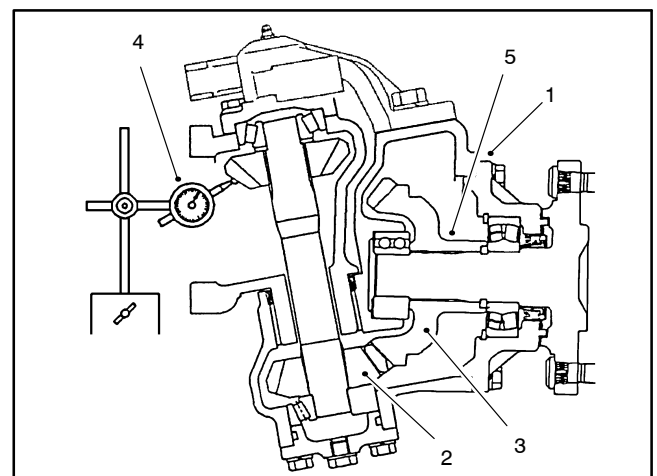

Figure 22
9. Remove the bevel gear case/axle case assembly from the axle support. Coat a new O-ring with grease and temporarily install the axle cover assembly. Position a dial indicator at the teeth center. Prevent the axle from turning and measure the lower bevel gear to axle gear backlash (Fig. 22).